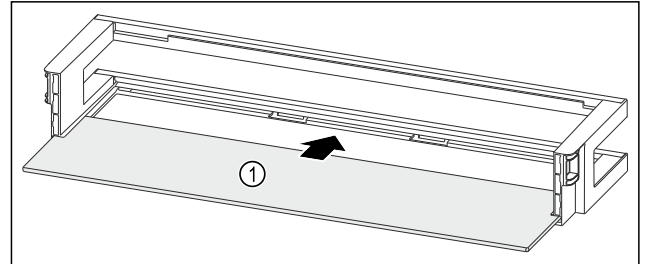

Fig. 88 Door racks with shelf
- ▶ Push the shelf Fig. 88 (1) into the side recesses.